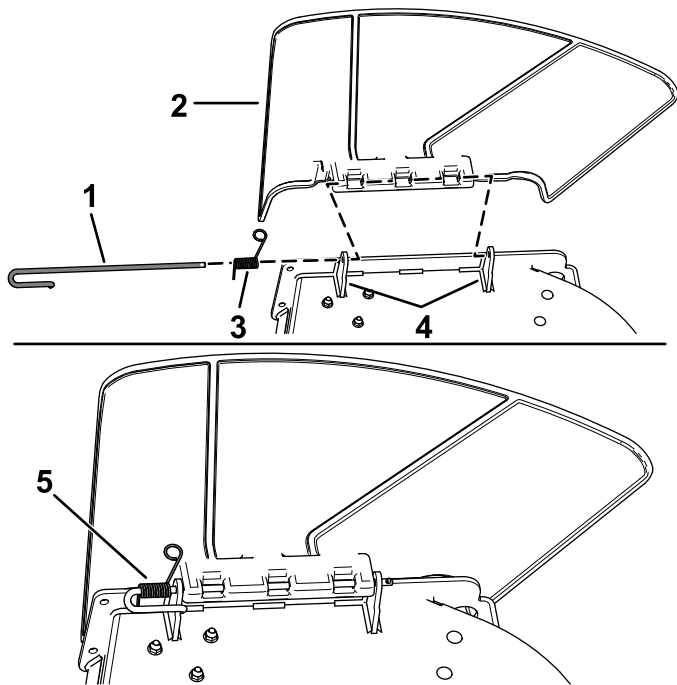

Figure 67
1. Disengage the spring from the notch in the deflector bracket and slide the rod out of the welded deck brackets, spring, and discharge deflector (Figure 67).